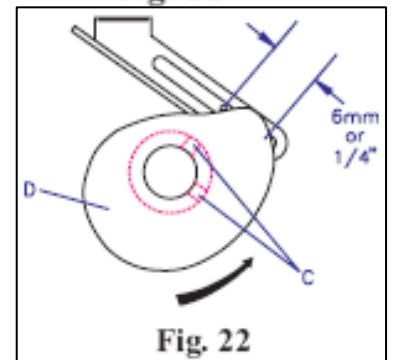

Fig. 22
E. Position of Loper Thread Take-up Set position of looper thread take-up so that thread begins pull off as looper starts to descend to the right from far left position. At this setting, the thread cam will have approximately 6.4mm or 1/4" pull off showing at the above Take-up position. See figure 22. To adjust, it may be necessary to move the thread cam in increments of 0.3mm or 1/64". Make Cast-Off Plate be in the center of groove on Loper Thread Take-Up.
2) On the return way of Loper to right, when the point of left Needle reaches approximately the center line of blade of Loper (Fig. 24), the looper thread should be adjusted to come off the highest place of Loper Thread Take-Up (D) (Fig. 22).